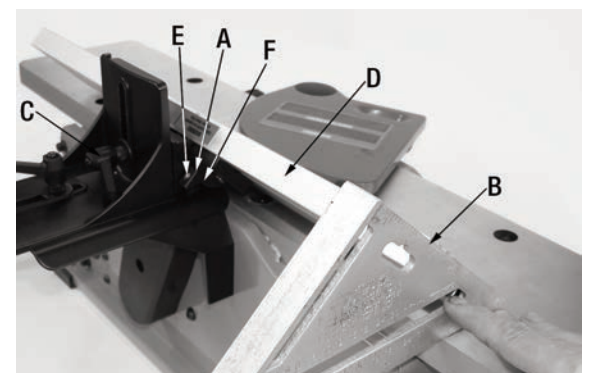

FIGURE 11
- 1) With the fence set against the 45° stop (A) Fig.11, place a square (B) against the table and fence as shown. If the fence is not 45° to the table, a fine-tune adjustment of the 45° stop will be required.
- 2) Loosen the fence tilt lock handle (C).
- 3) Using your square as a guide, manually set the fence (D) 45° to the table.
- 4) Hold the fence in place and adjust the 45° stop set screw (E) until it touches the fence bracket (F).